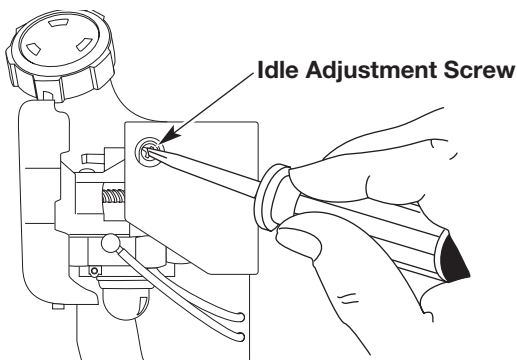

Fig. 49
The idle speed of the engine is adjustable. An idle adjustment screw is reached through a hole in the top of the engine cover (Fig. 49).
2. Release the throttle trigger and let the engine idle. If the engine stops, insert a small phillips or flat blade screwdriver into the hole in the air filter/muffler cover (Fig. 49). Turn the idle speed screw in, **clockwise**, 1/8 of a turn at a time (as needed) until the engine idles smoothly.